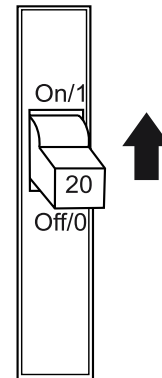

Figure 80. GFCI Circuit Breaker
2. Place a GFCI circuit breaker (Figure 80) in the **ON** position.